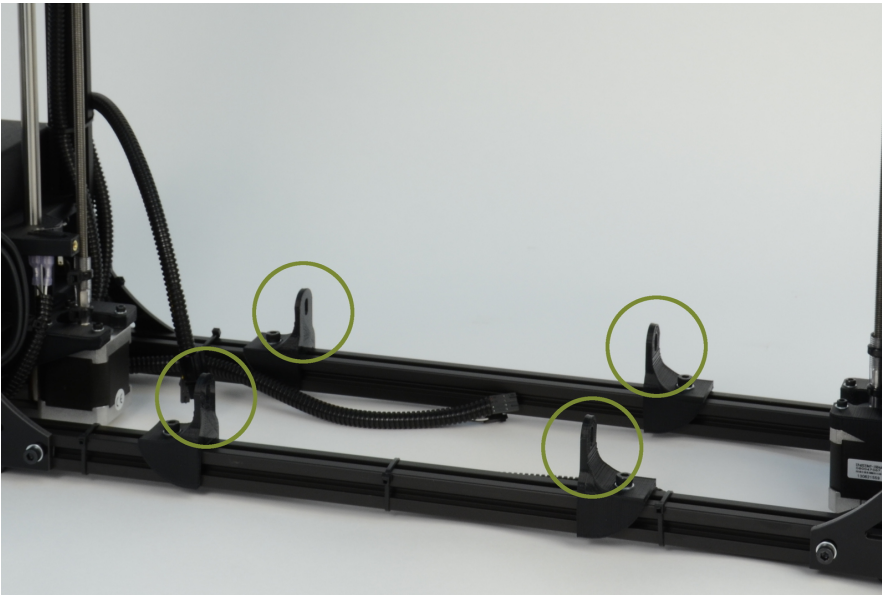
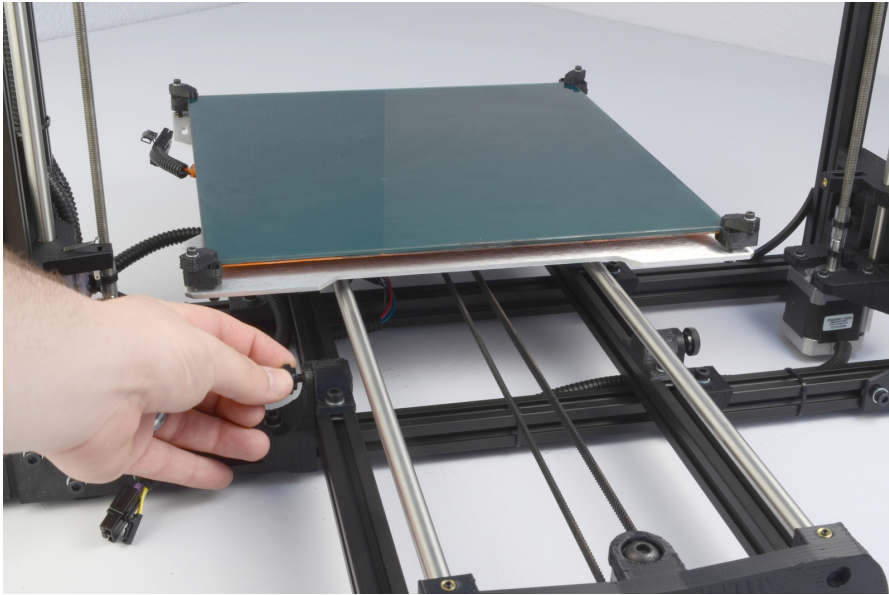

Figure 1.4: Locate the four Y axis mounts on the frame
Figure 1.5: Screw in and tighten the four Y axis bolts
3. On the TAZ frame locate the four Y axis mount brackets shown in Fig. 1.4 (pg. 18). With the print surface facing up and the stepper motor end of the Y axis facing back, slide the Y axis assembly in between the Y axis mount brackets. The four Y axis mount brackets will line up with the Y axis bolt holes on the Y axis assembly. Thread the four Y axis bolts through the brackets, into the Y axis assembly (Fig. 1.5, page 19). Before completely tightening the Y axis bolts make sure the Y axis aluminum bars are pushed down against the TAZ frame lower bars. While pushing on the black Y axis square extrusions tighten the four Y axis bolts. The printer can now be set flat on the table.